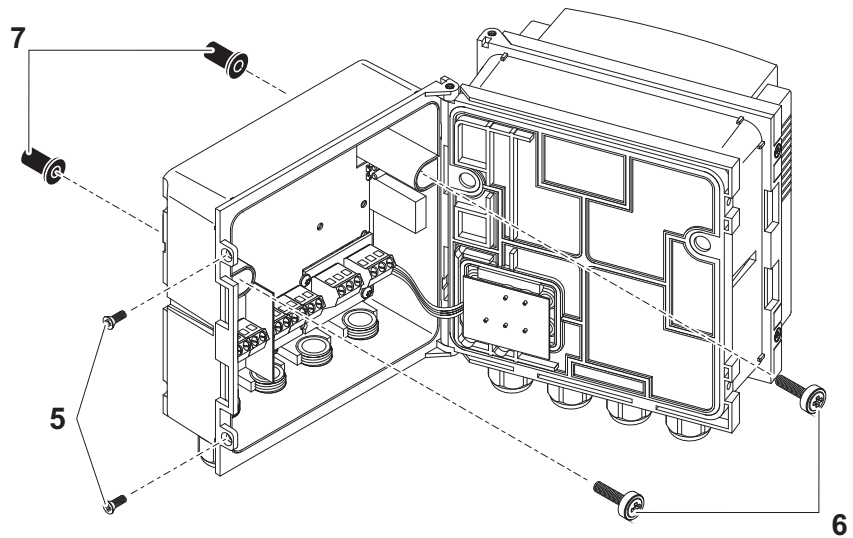

Fig. 3-16 Mounting the sun shield: Premounting the ISO blind nuts
| 2 | Remove the two countersunk screws (pos. 5 in Fig. 3-16) and swing open the lid.  |
| 3 | Insert the cheese-head screws (pos. 6 in Fig. 3-16) with the plastic washers in the drilled mounting holes and loosely screw in the ISO blind nuts (pos. 7). |
| 4 | Position the DIQ/S 182-XT-4 on the sun shield and fix it into place with the two screws (pos. 6 in Fig. 3-16). |
| 5 | Close the lid and fix it with the two countersunk screws (pos. 5 in Fig. 3-16).                                |